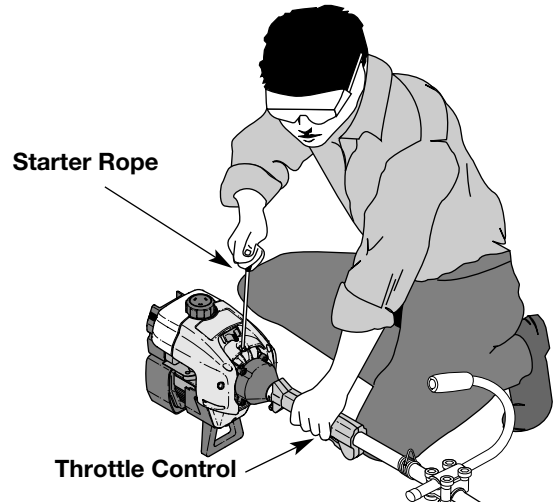

Fig. 6
**WARNING:** Avoid accidental starting. Be in the starting position when pulling the starter rope (Fig. 6). The operator and unit must be in a stable position while starting to avoid serious personal injury.
5. With the unit on the ground, squeeze the throttle control and pull starter rope briskly (Fig. 6). Continue pulling until the engine sounds as though it wants to run (normally 2 to 5 pulls).
7. Pull starter rope briskly 1 to 3 times to start the engine (Fig. 6).
1. Release your hand from the throttle control (Fig. 6). Allow the engine to cool down by idling.